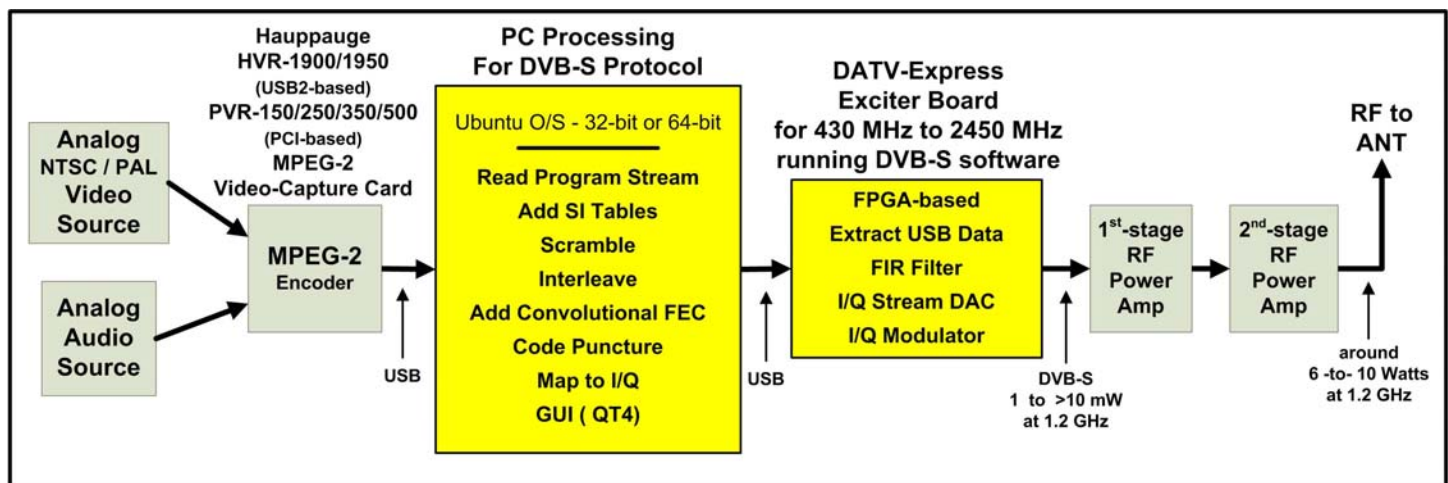

Figure 1 – Block Diagram of typical DATV-Express DVB-S transmitter set-up
As shown in **Figure 1**, the DATV-Express board is designed to run from a PC. The PC does most of the hard work for creating the Transport Streams (TS), processing the DVB protocols, adding the Forward Error Correction (FEC) calculations, and producing a stream of IQ data that is sent to the DATV-Express board by a USB2 interface. The DATV-Express hardware board then shapes the IQ datastreams and modulates using an Analog Devices model ADRF6755 IQ-modulator chip.
The DATV-Express requires a PC to perform most of the DVB-S processing. Then the PC will send the processed IQ stream to the DATV-Express hardware board via USB2 connection. See **Figure 1** below for a block diagram of a typical DATV-Express transmitter set-up (shown for DVB-S protocol).